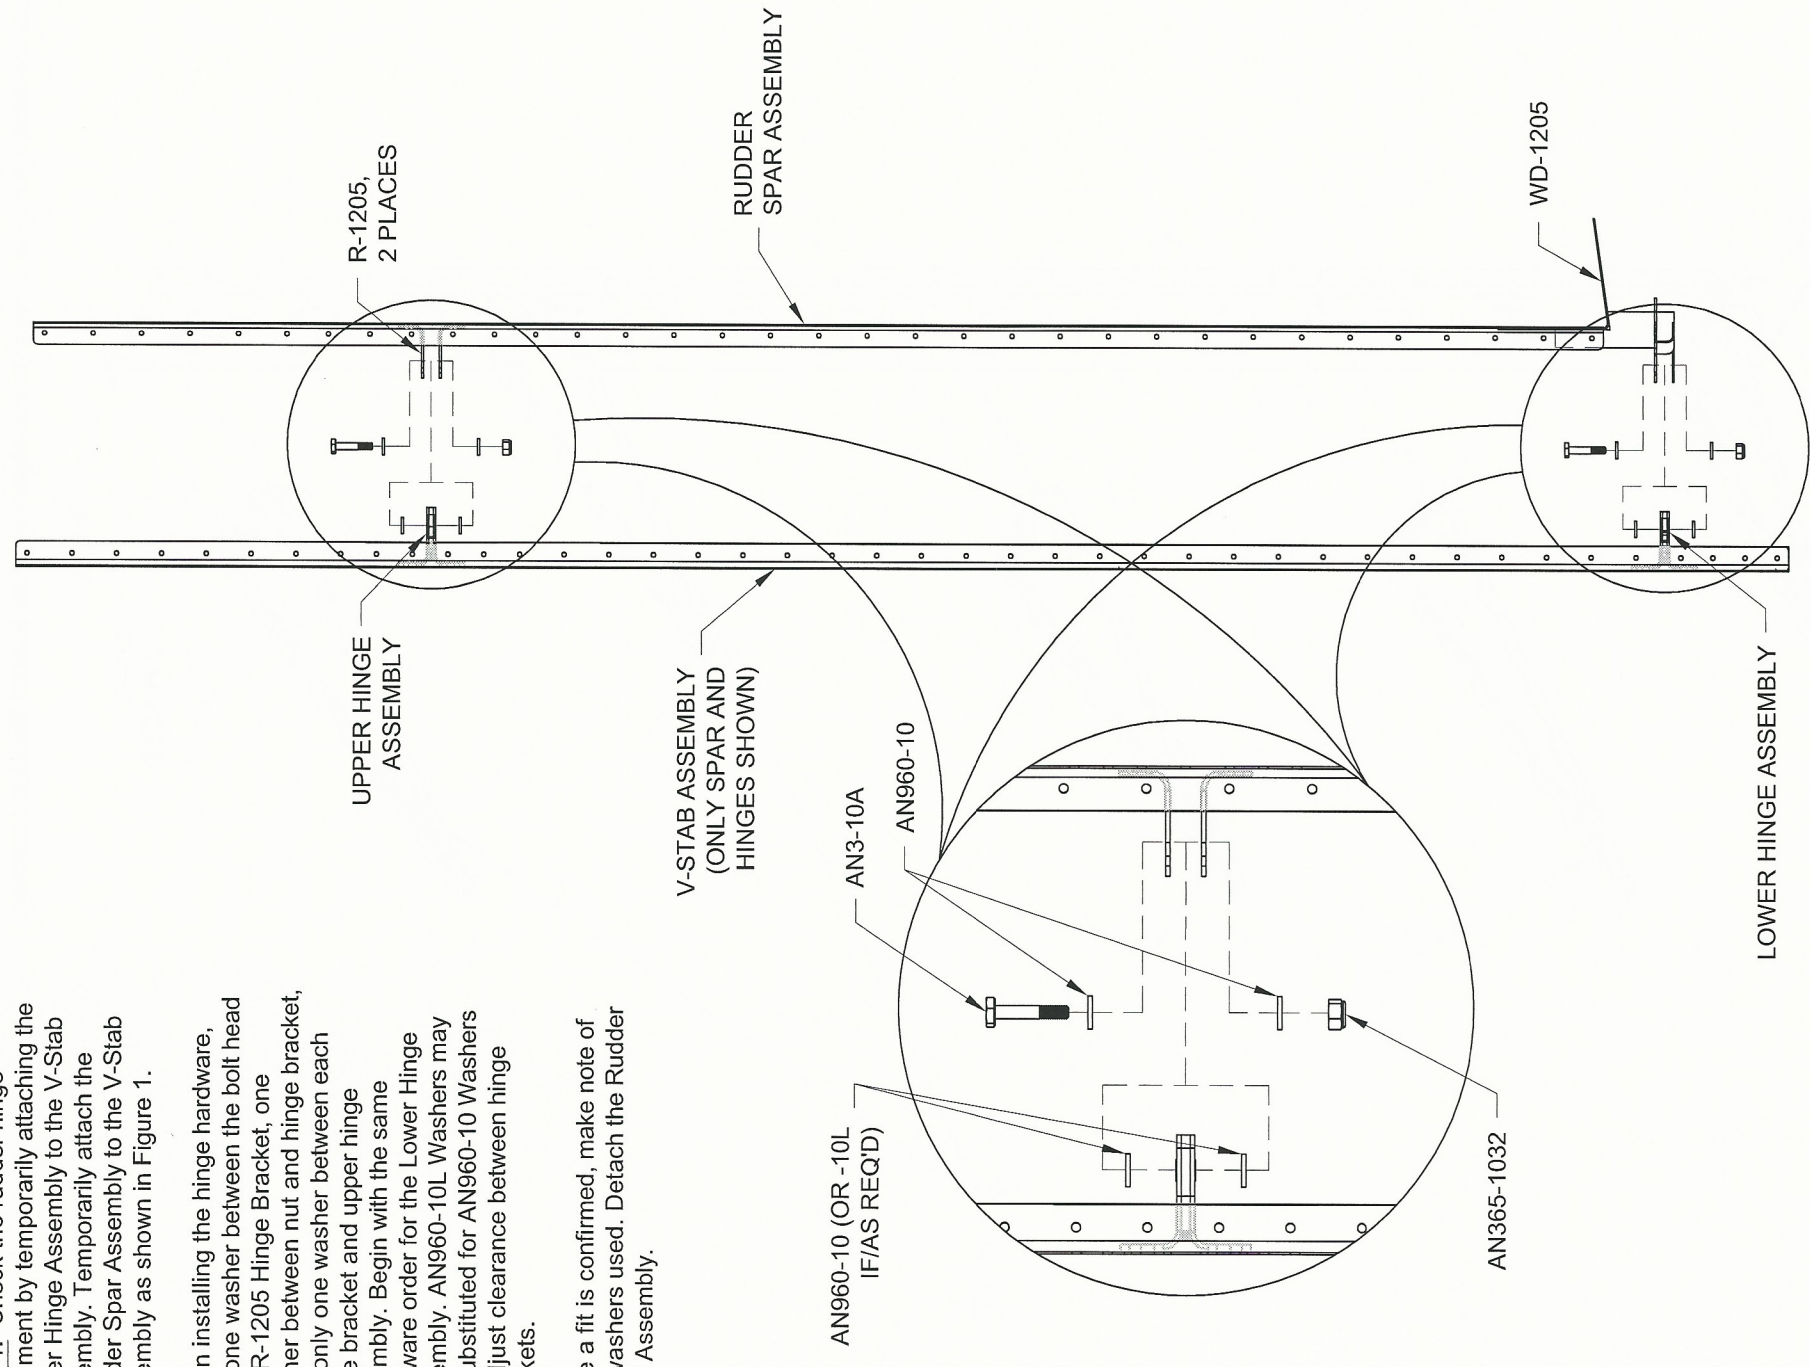

FIGURE 1:
Step 1: Check the rudder hinge alignment by temporarily attaching the Lower Hinge Assembly to the V-Stab Assembly. Temporarily attach the Rudder Spar Assembly to the V-Stab Assembly as shown in Figure 1.